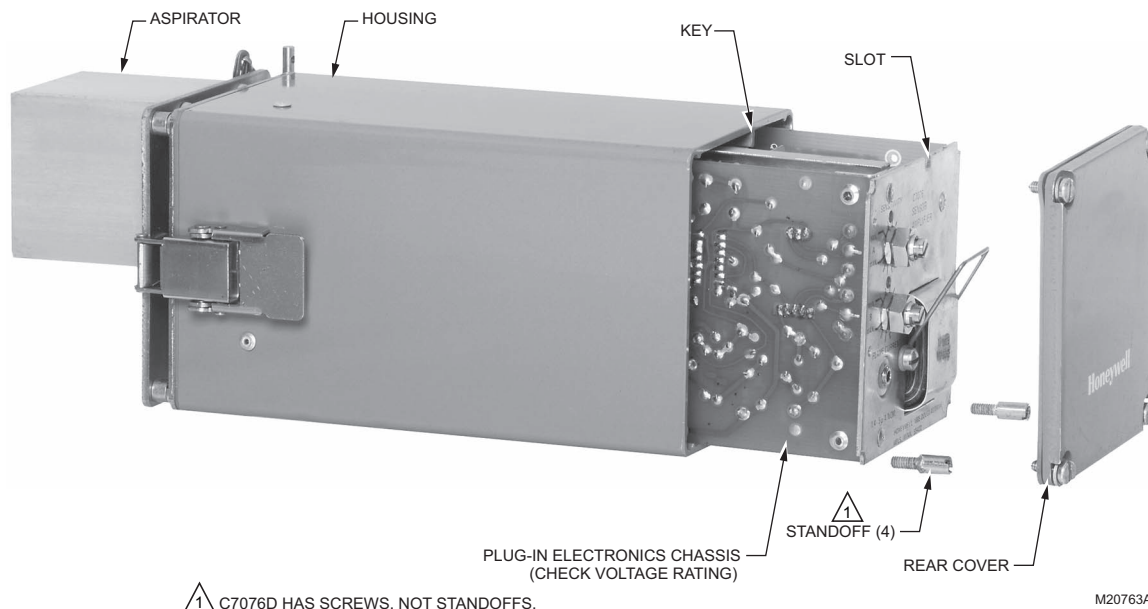

Fig. 18. Replacing the plug-in electronics chassis in the C7076 Flame Detector.
4. After each step in the following procedures, realign the detector with the faceplate and check for a meter reading at the Flame Current jack on the detector (Fig. 18).
5. Insert the new chassis in the housing and firmly push it all the way in (see Fig. 18). Make sure the octal plug on the chassis is securely seated in the socket in the housing.